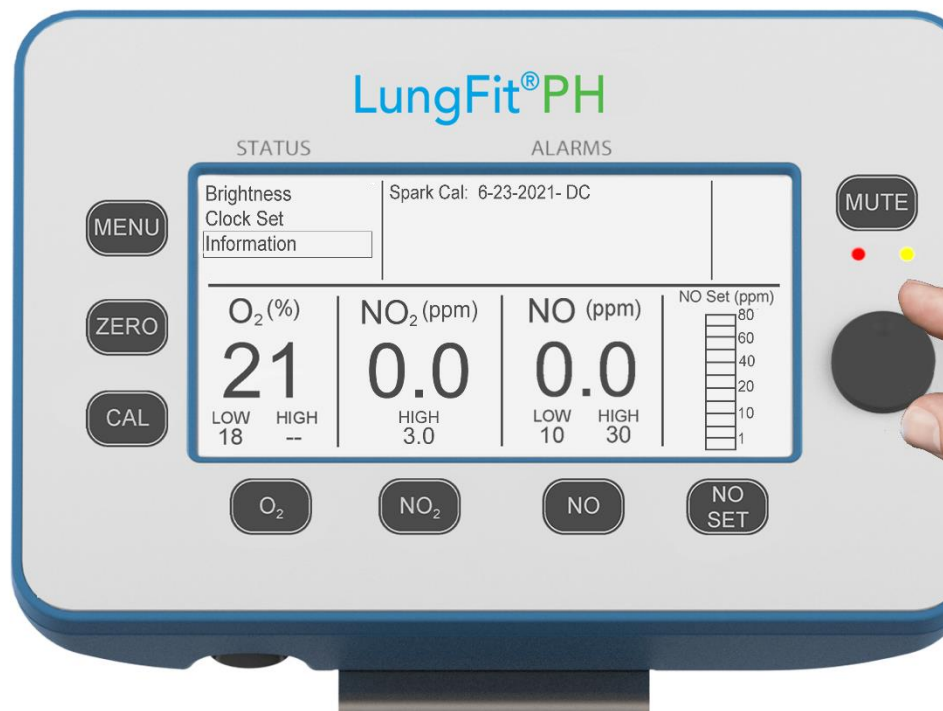

Figure 37: MENU Information Screen
- Use control wheel to select **Information**, indicated by a box surrounding the text (*see Figure 37*).